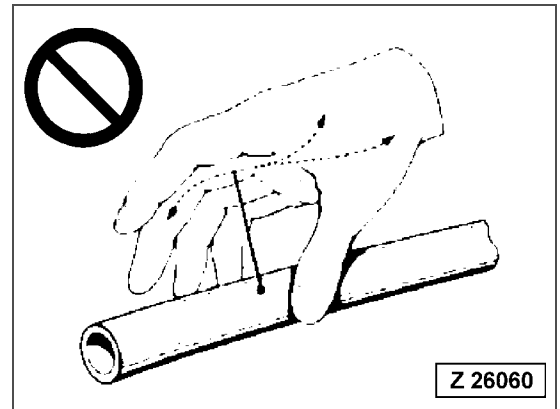

Fig. 2-49
- There is a hazard that high-pressure oil leaking from small holes may penetrate your skin or cause blindness if it contacts your eyes directly (Fig. 2-49). If you are hit by a jet of high-pressure oil and suffer injury to your skin or eyes, wash the place with clean water, and consult a doctor immediately for medical attention.